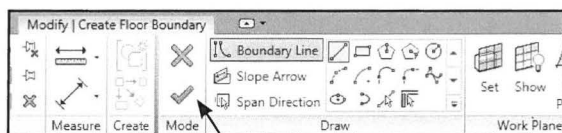

Fig. 07.08. Finish Edit Mode.
- Klik *Finish Edit Mode* (Det grønne flueben) (Fig. 07.08).